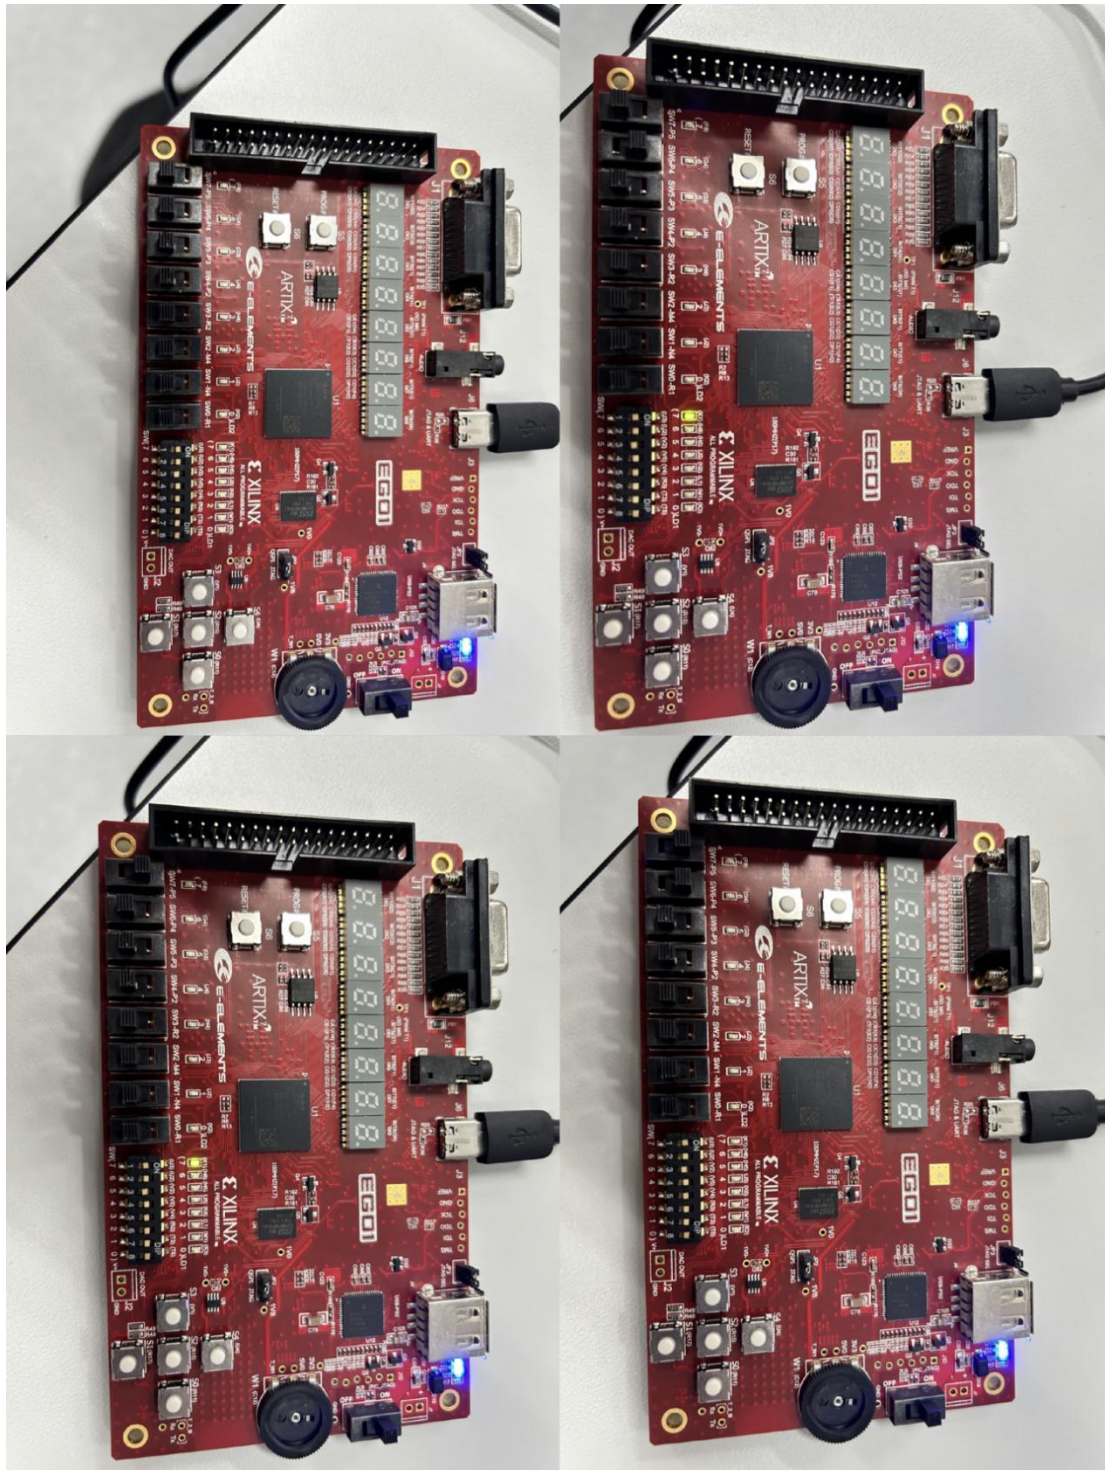

Figure 2 Results of 2-input-1-output XOR gate
As shown in Figure 2, when the states of SW7 and SW6 are different, LD(7) is on. When the states of them are the same, LD(7) is off.